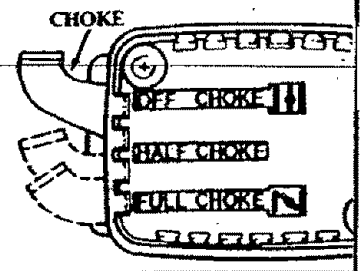

Figure 12
- b. Move Choke to "full" position. Figure 12.
- e. Move Choke to "half" position. Figure 12.
- g. Allow engine to run 5 seconds, then move Choke to "off" position. Figure 12. *Keep Throttle Trigger fully squeezed until engine runs smoothly.*
- b. Move Choke to "half" position. Figure 12.
NOTE: If engine does not run after 5 pulls, it is probably flooded. Wait a few minutes and repeat procedure with Choke at "off" position. Figure 12.
- e. Move Choke to "off" position. Figure 12. *Keep Throttle Trigger fully squeezed until engine runs smoothly.*
- Move Choke to "full" position. Figure 12.
- Move Choke to "off" position. Figure 12.
NOTE: If engine has not started, pull Starter Rope 5 more pulls. If engine still does not run, it is probably flooded. Wait a few minutes and repeat procedure with Choke at "off" position. Figure 12.